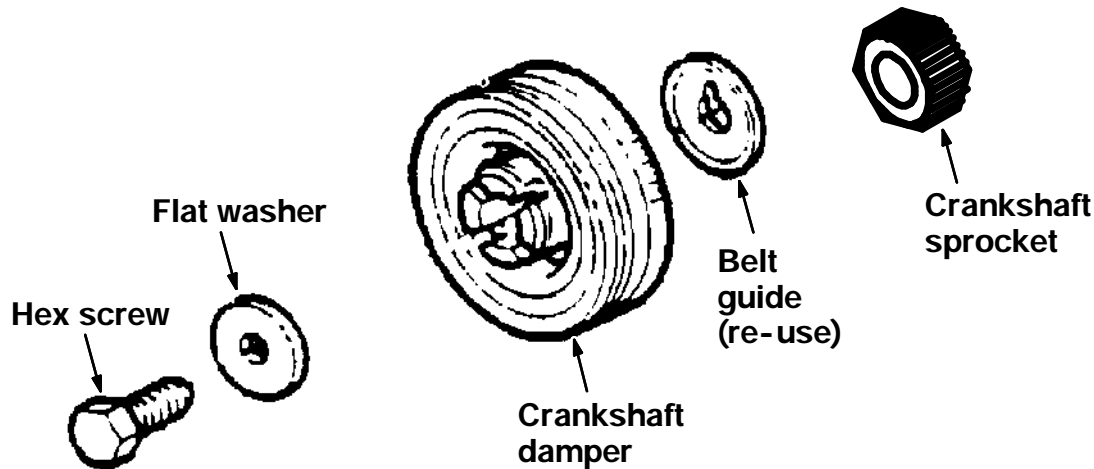

FIG. 1 - Crankshaft Damper
(Refer to FIG. 1, 2, 3 and 4)
7. Remove the crankshaft damper pulley. (Refer to Fig. 1)
8. Pull the belt guide off the end of the crankshaft where the damper was removed. (Refer to Fig. 1)
9. Reinstall the belt guide and damper to the crankshaft. (Refer to Fig. 1)